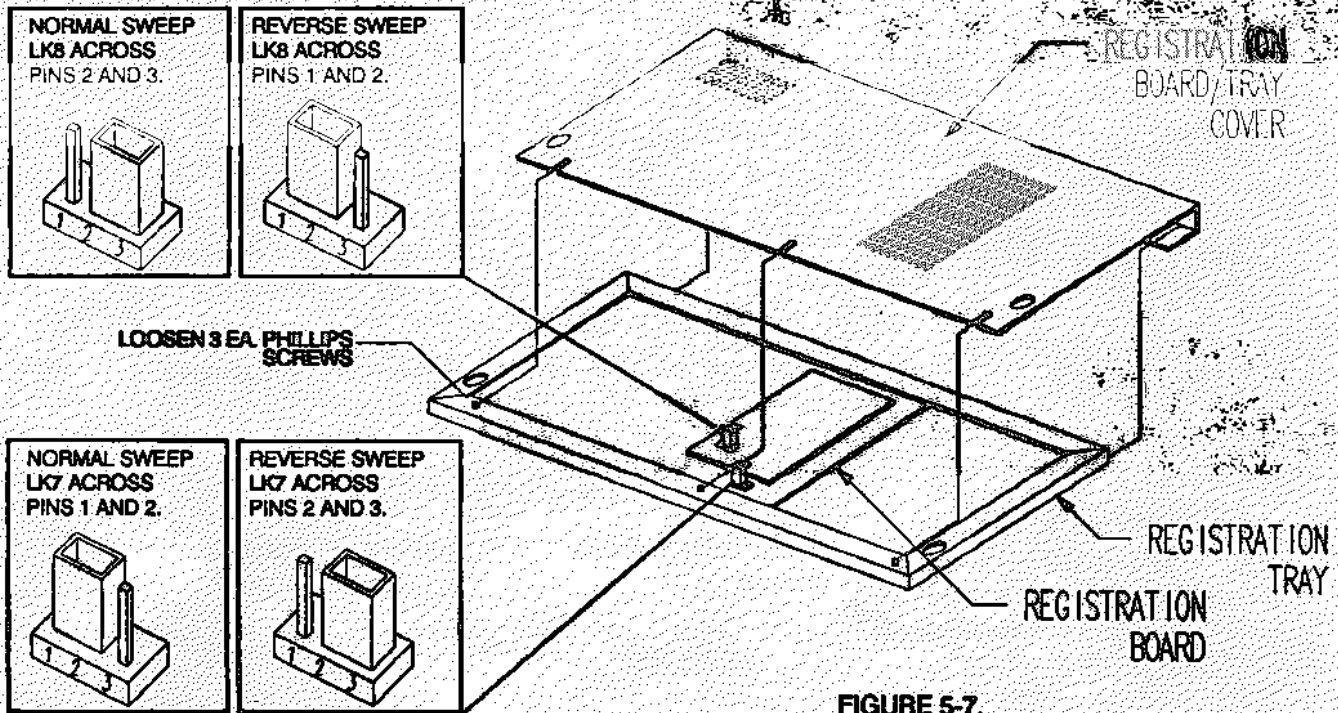

FIGURE 5-7.
- STEP 5. Remove the Registration board/tray cover by loosening the three each phillips screws. Refer to Figure 5-7.
- STEP 6. Position LK7 and LK8 (Registration Board, lower right hand corner as viewed from the rear) for the proper sweep configuration. Refer to Figure 5-7.